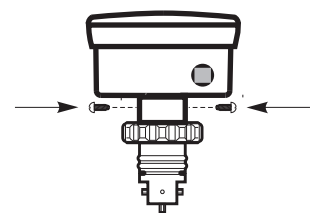

Fig. 6
- Display can be mounted on the sensor or panel mounted (1/4 DIN). See figure 6 and 8.